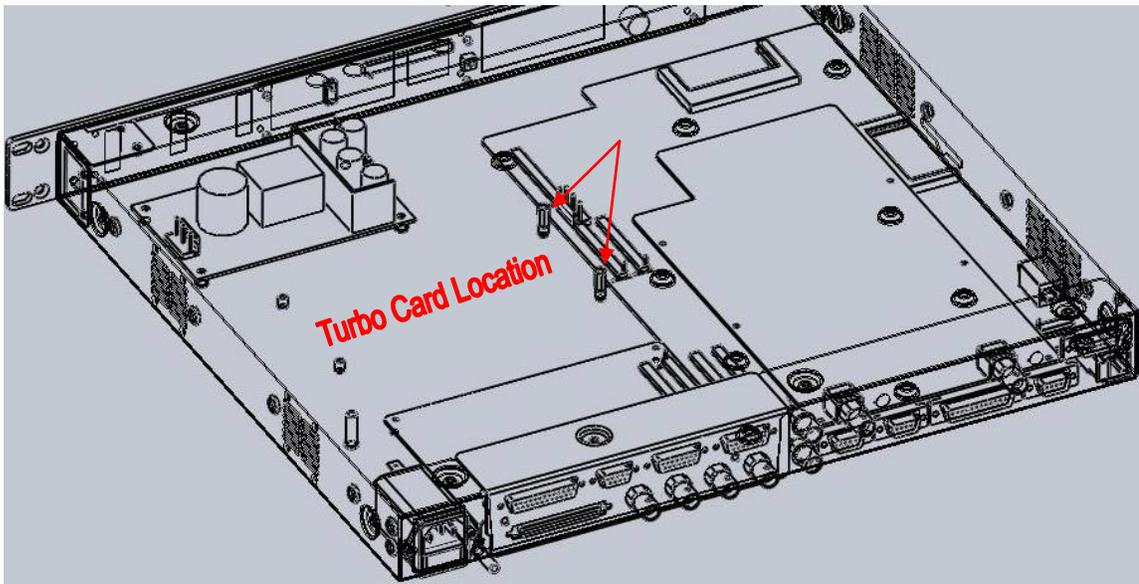

Figure 1
4. Remove Turbo Card (If Installed) by removing 4 ea. pan head Phillips screws. Refer to Figure 1 for the Turbo card location in the modem.
1. Install 4/40 X 3/16 Standoff hardware from hardware kit in two places on bottom of chassis as shown in Figure 1